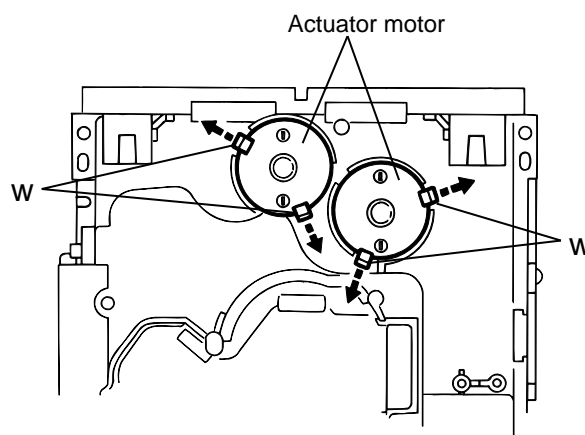

Fig.21
5. After turning over the chassis assembly, remove the actuator motor while spreading the four pawls "w" fixing the right and left actuator motors in the arrow direction(See Fig. 21).